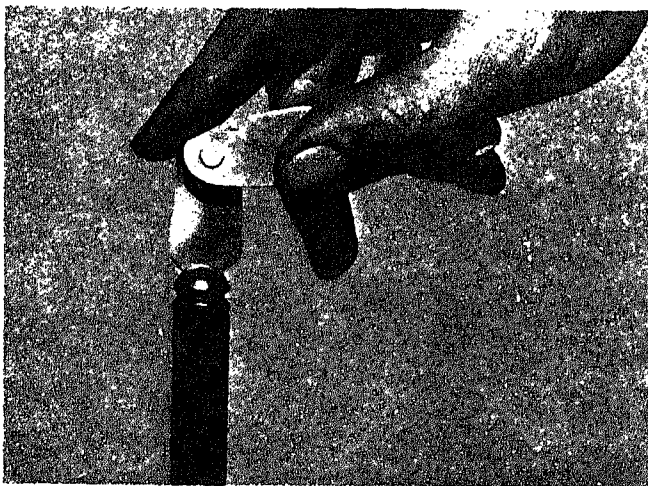

Fig. 3-2-1. Checking push tube ball end with radius gauge N20309
2. Check injector and valve push tube ball end with radius gauge for wear. Fig. 3-2-1.